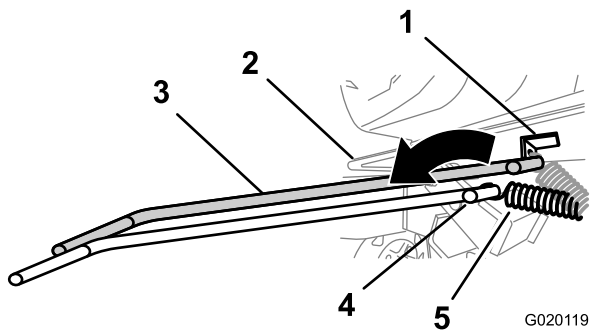

Figure 48
6. Using a spring-removal tool (Toro part 92-5771), remove the spring from the anchor bracket on the engine deck (Figure 48).
7. Using a spring-removal tool, (Toro part 92-5771), install the tension spring to the anchor bracket on the engine deck (Figure 48).